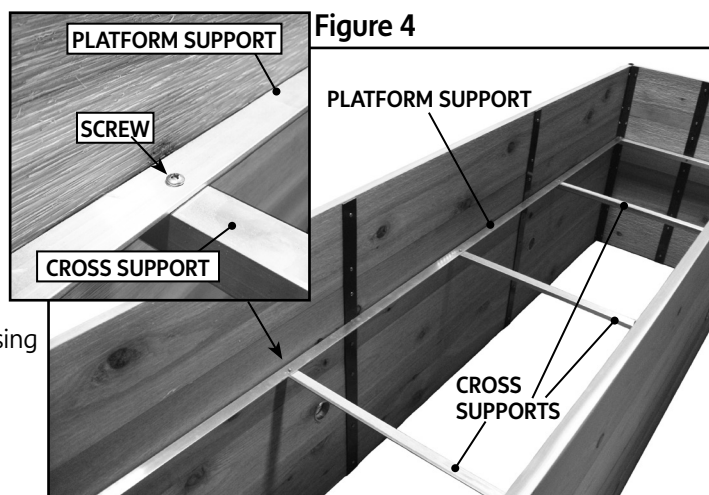

Figure 4
9. Connect the 3 CROSS SUPPORTS to the PLATFORM SUPPORTS by lining up the holes on the ends of the CROSS SUPPORTS with the holes along the length of the PLATFORM SUPPORTS (Fig. 4). Insert SCREWS through the holes from the top.